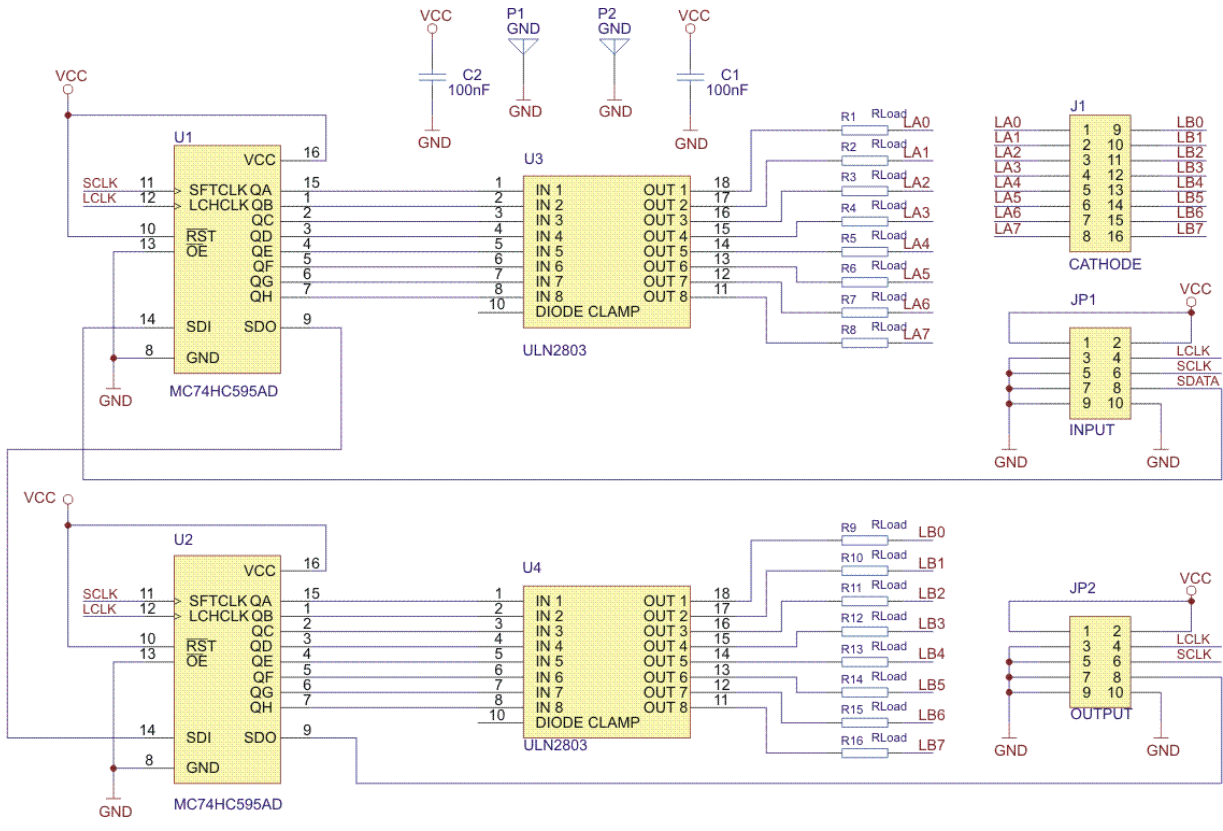

Figure 6
**DRA2** is the same as **DRA1**, but can drive directly 20 seven - segment indicators. In one line can be connected up to 8 **DRA2** boards. **Figure 6** shows **DRA2** schematic. Connectors **JP1** and **JP2** are the same as this of **DRA1**.